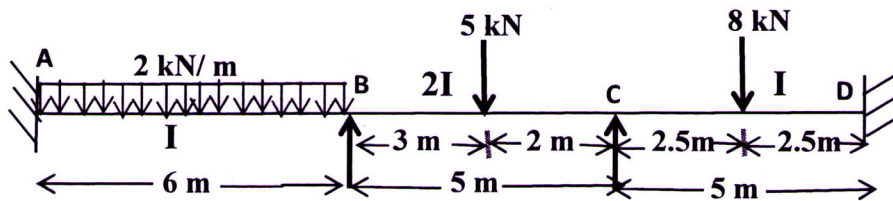

Figure 5
- 15 A continuous beam ABCD consists of three spans and is loaded as shown in figure 5. Ends A and D are fixed. Analyse the beam using slope deflection method and plot the bending moment diagram. 14